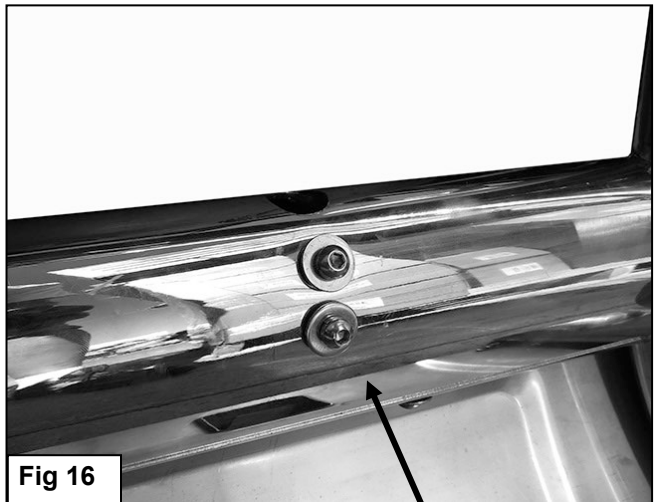

Fig 16
- a. Insert the included (4) 6mm x 20mm Button Head Bolts, (4) 6mm Lock Washers and (4) 6mm Flat Washers into the threaded inserts in the back of the crossbar to plug the holes, **(Figure 16)**. Tighten hardware. Installation is complete.**If aftermarket lights will be installed, (lights not included):**